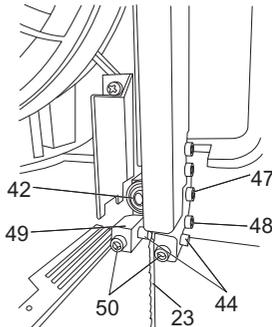

Fig. 28
- > Whenever you change the blade you must reset both the support bearings (42+43) and the guide pins (44 + 45). (Fig. 28 & 29)
1) Upper support bearing (Fig. 28)
- > Undo the hex screw (47) with 3mm hex key supplied.
- > Move the support bearing (42) so that it is almost touching the blade (23). There should be a gap of approx. 0.5mm.
- > Re-tighten the hex screws (47).
2) Adjusting the lower support bearing (29)
- > The blade (23) is only supported by the support bearings (43) during cutting.
3) Adjusting the upper guide pins (Fig. 28)
- > Undo the hex screw (48) with 3mm hex key supplied.
- > Move the mount (49) of the guide pins (44) so that there is a gap of approx. 1mm between the front edge of the guide pins (44) and the gullet of the blade in front.
- > Re-tighten the hex screw (48).